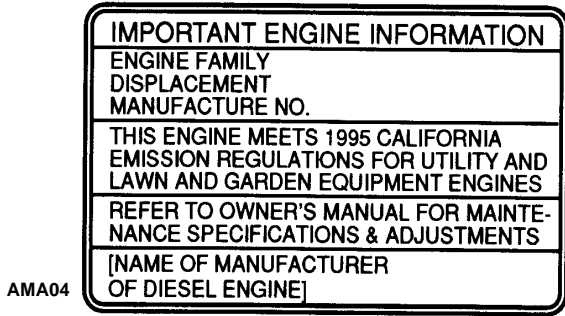

Figure 1: Emission Control Label
- a. Emission control label: a new label, shown in Figure 1, contains important engine information.